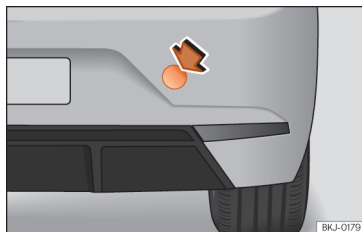

Fig. 157 Rear bumper on right: remove the lid.
The housing of the screw towing eye is on the right side of the rear bumper behind a lid >>> Fig. 157.
- Press the top right hand side of the cover >>> Fig. 157 to unclip it.